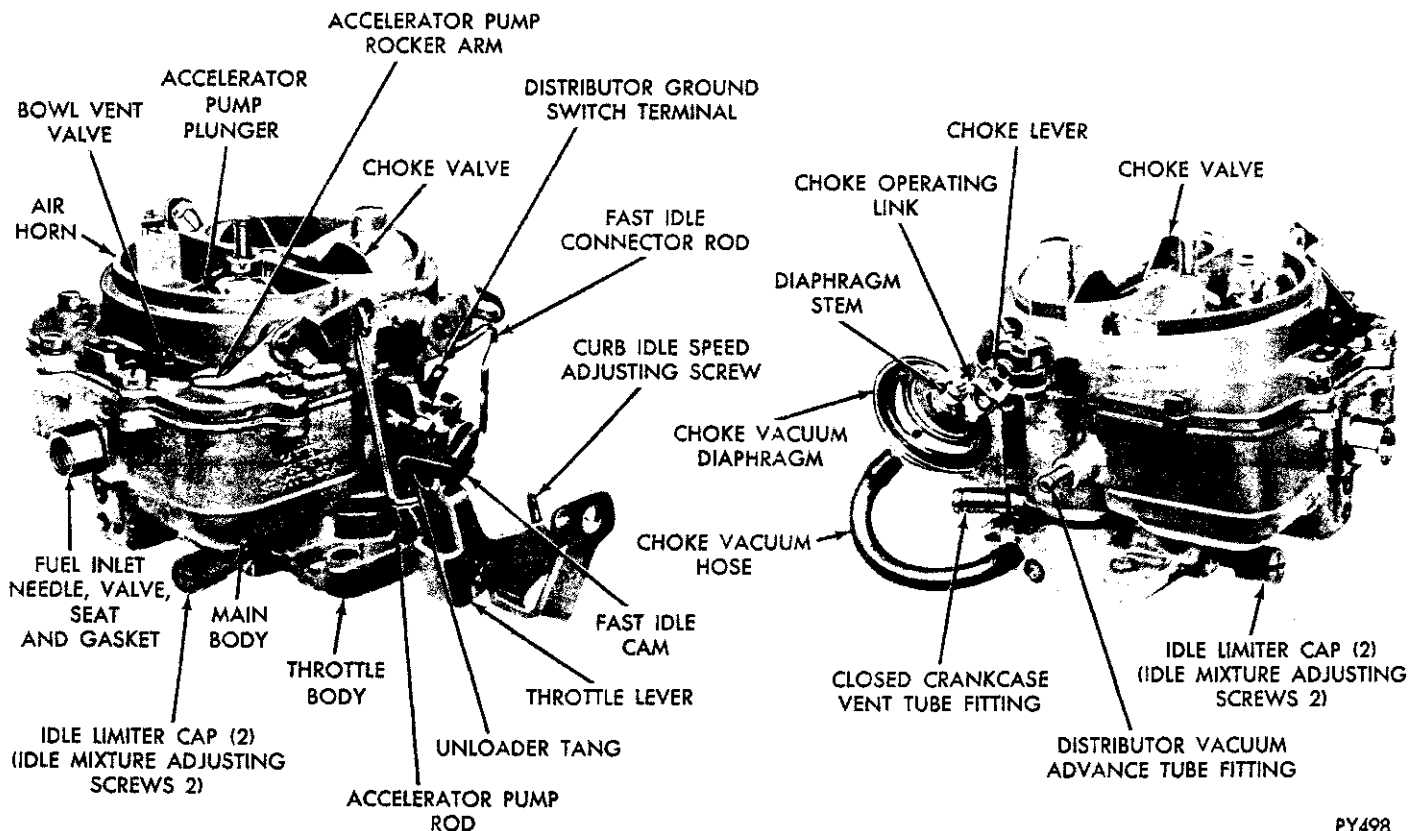
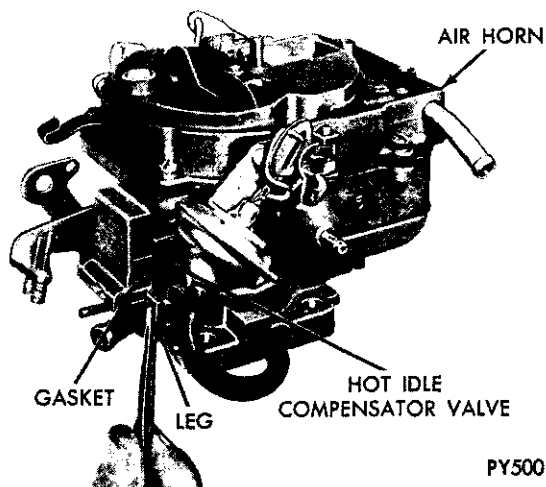

Fig. 1—Carburetor Assembly (BBD-1-1/2 inch) C.A.S.
Fig. 3—Removing or Installing Hot Idle Compensator Valve
The Ball and Ball dual throat 1-1/2 inch Carburetor Models C.A.S. (Cleaner Air System) BBD-4725S, BBD-4726S and BBD-4894S are used on the 383 cu. in. Engines when the vehicles are equipped with manual or automatic transmissions respectively. (Fig. 1). BBD-4726S is used only on vehicles without air conditioning while BBD-4894S is used only on vehicles with air conditioning. This carburetor is equipped with a hot idle compensator valve, which is a thermostatically operated air bleed, to relieve an overrich condition at
DISASSEMBLING CARBURETOR (Fig. 1 or 2)
(5) Remove clip from choke operating link and disengage link from diaphragm plunger and choke lever. (Fig. 1 or 2).
(6) Remove vacuum diaphragm and bracket assembly and place to one side, to be cleaned as a special item. **A liquid cleaner may damage the diaphragm material.**
(7) Remove screws that attach hot idle compensator valve cover to main body. Remove cover and lift out hot idle compensator valve and gasket. (Fig. 3).
(8) Remove air horn retaining screws and lift air